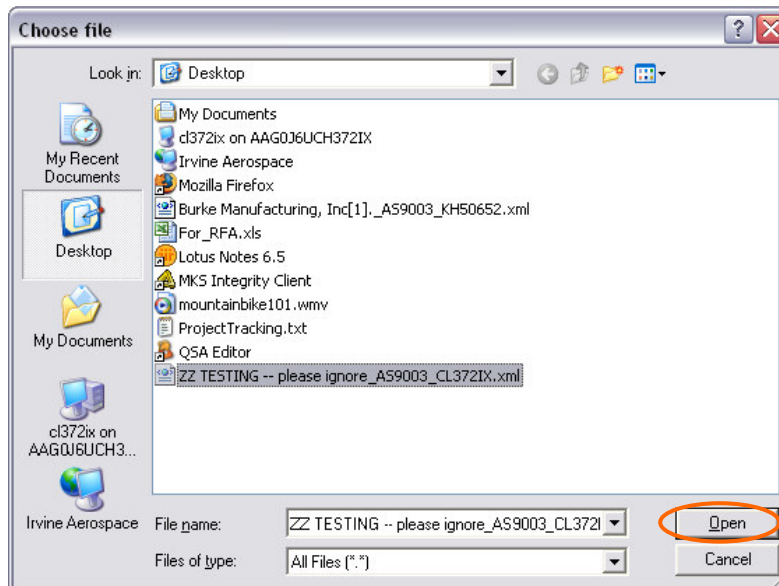

Figure 25 – Select Survey File To Be Uploaded
- From the “Choose File” form (figure 25), navigate to the directory where you store the survey file. Locate the file and select it. Click on the “Open” button.